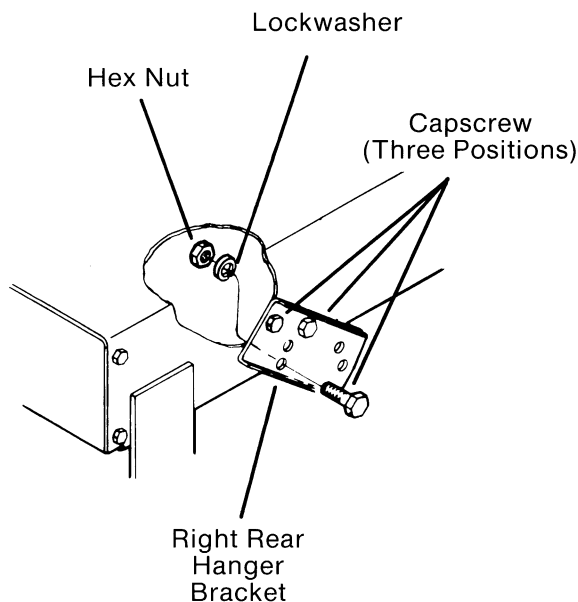

FIG. 14
- B. Align the three mounting holes in the right rear hanger bracket with matching holes on right rear side of tractor frame (Fig. 14). Secure each hole with hardware shown in (Fig. 14).